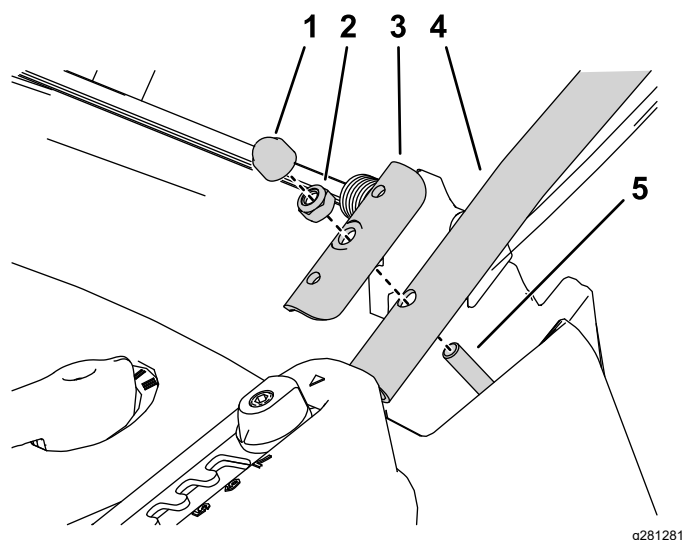

Figure 3
2. Install a lower handlebar to each side of the top of the mower deck with a clamp plate and the hex locknut removed from the deck in the previous step (Figure 3).